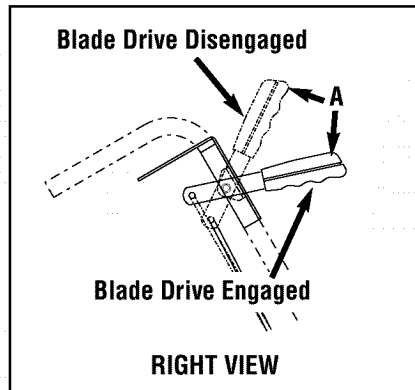
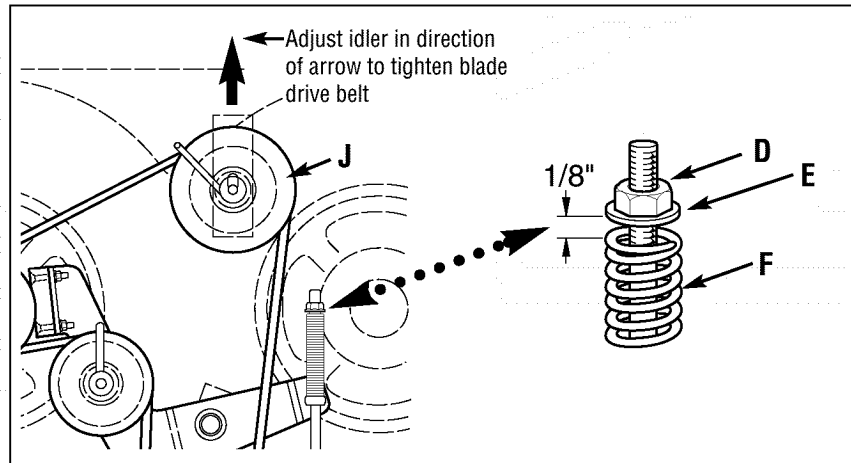

Figure 5-7: Blade Drive Control.
Figure 5-9: Blade drive adjustment.
- Disengage blade drive control (Figure 5-7) by releasing all controls on the mower.
- Have an assistant hold down Operator Presence Control and then push the Blade Drive Control forward until it latches in place (Figure 5-7).
4. With the Blade Drive Control (Figure 5-7) in the disengaged position, set a gap of 1/8" between the spring (F, Figure 5-9) and flat washer (E) by adjusting the nut (D).
7. If the drive belt slips during operation, it may be necessary to relocate idler (J, Figure 5-9) in the slot provided in the mounting bracket. **With the engine stopped and the spark plug wire disconnected**, loosen the hardware on the idler (J) and slide it forward to take up slack in the belt.